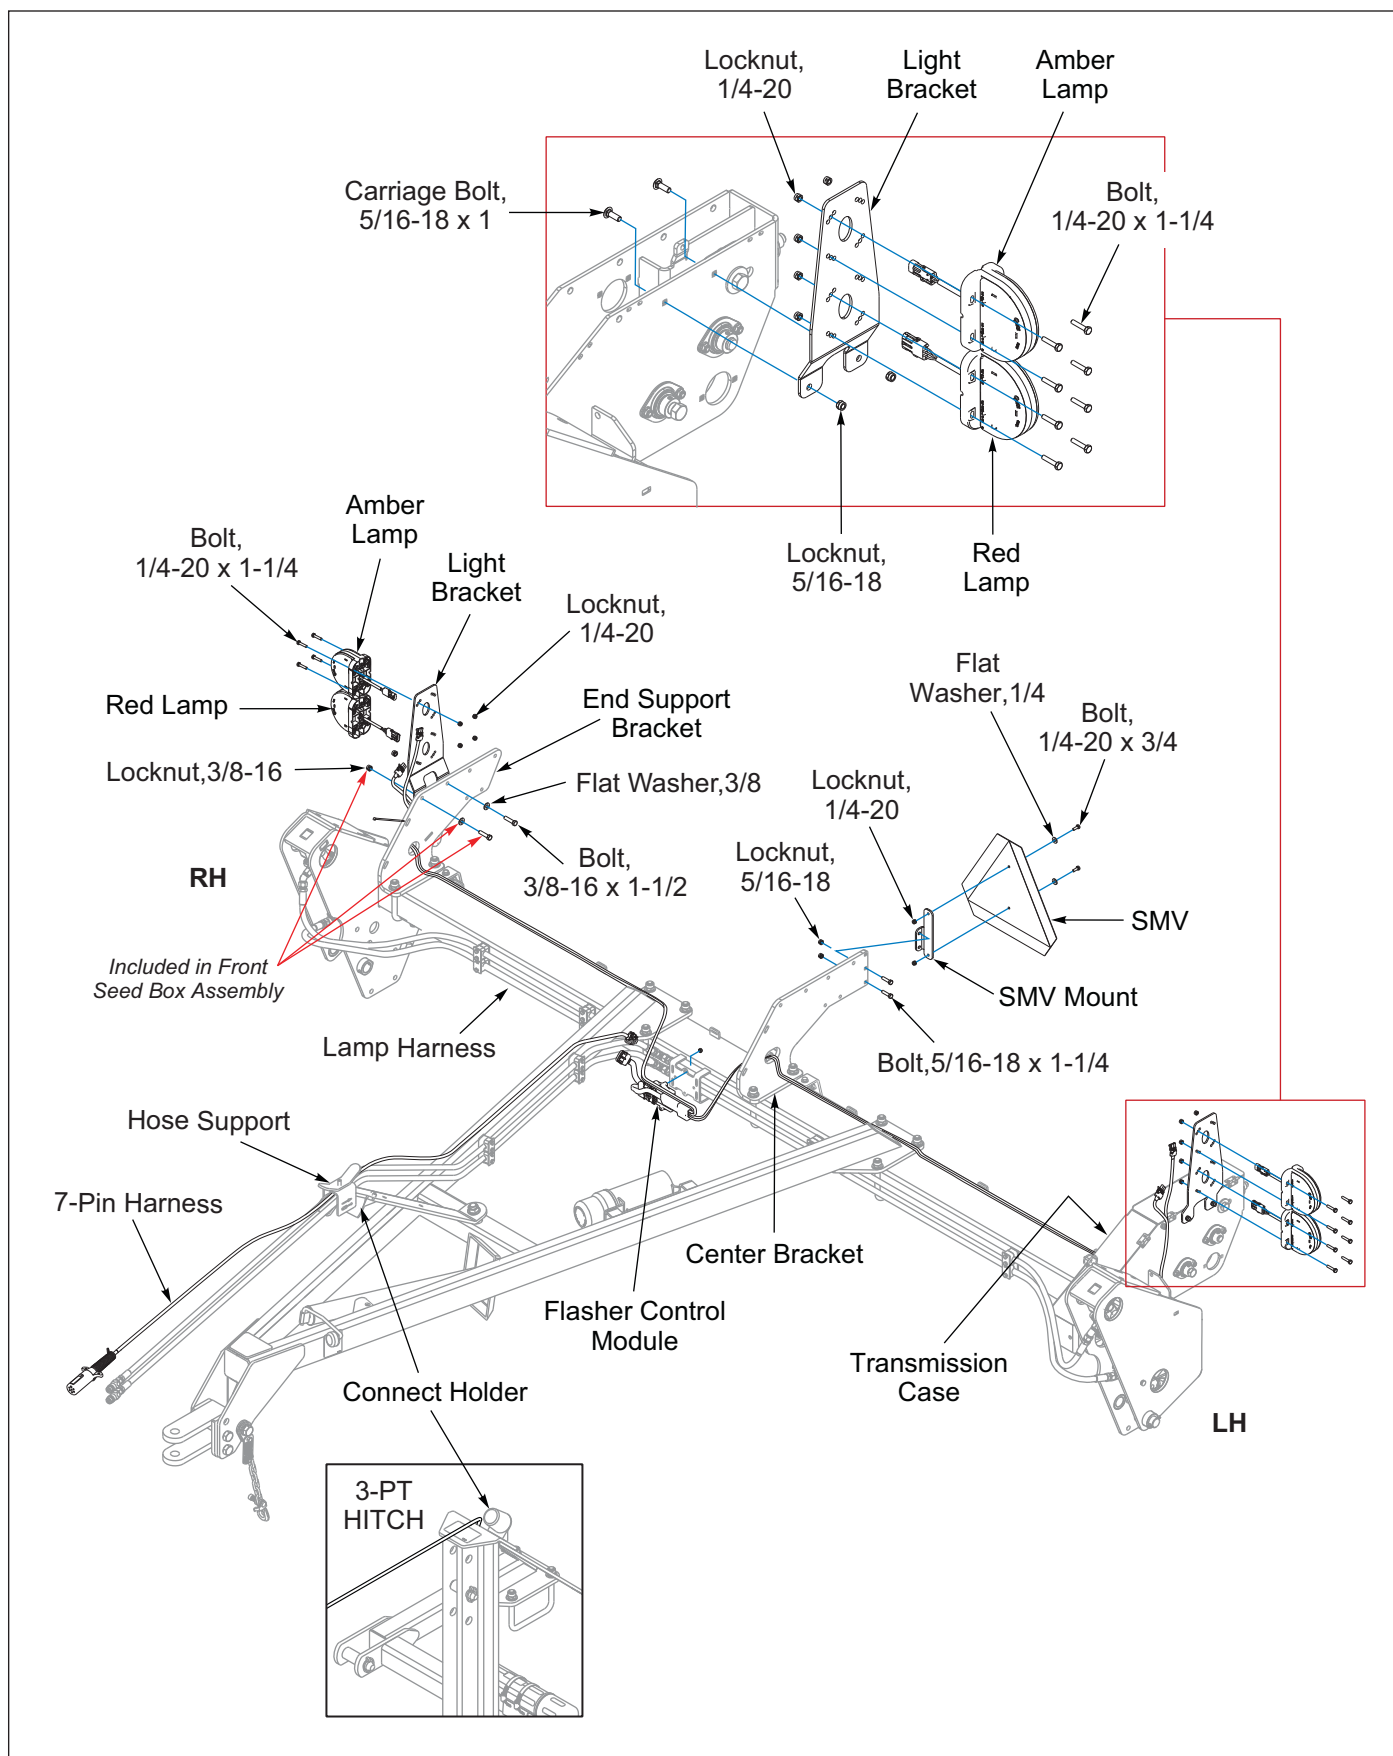

Figure 2-20: Warning Lamp Installation, 8FT and 10FT (After 08/2025)
1. Attach an Amber Lamp to the upper portion of each Light Bracket with 1/4-20 x 1-1/4 Bolts and Locknuts. **See Figure 2-20.**
8. If not installed, attach the Connector Holder to the Hose Support. **See Figure 2-20.**